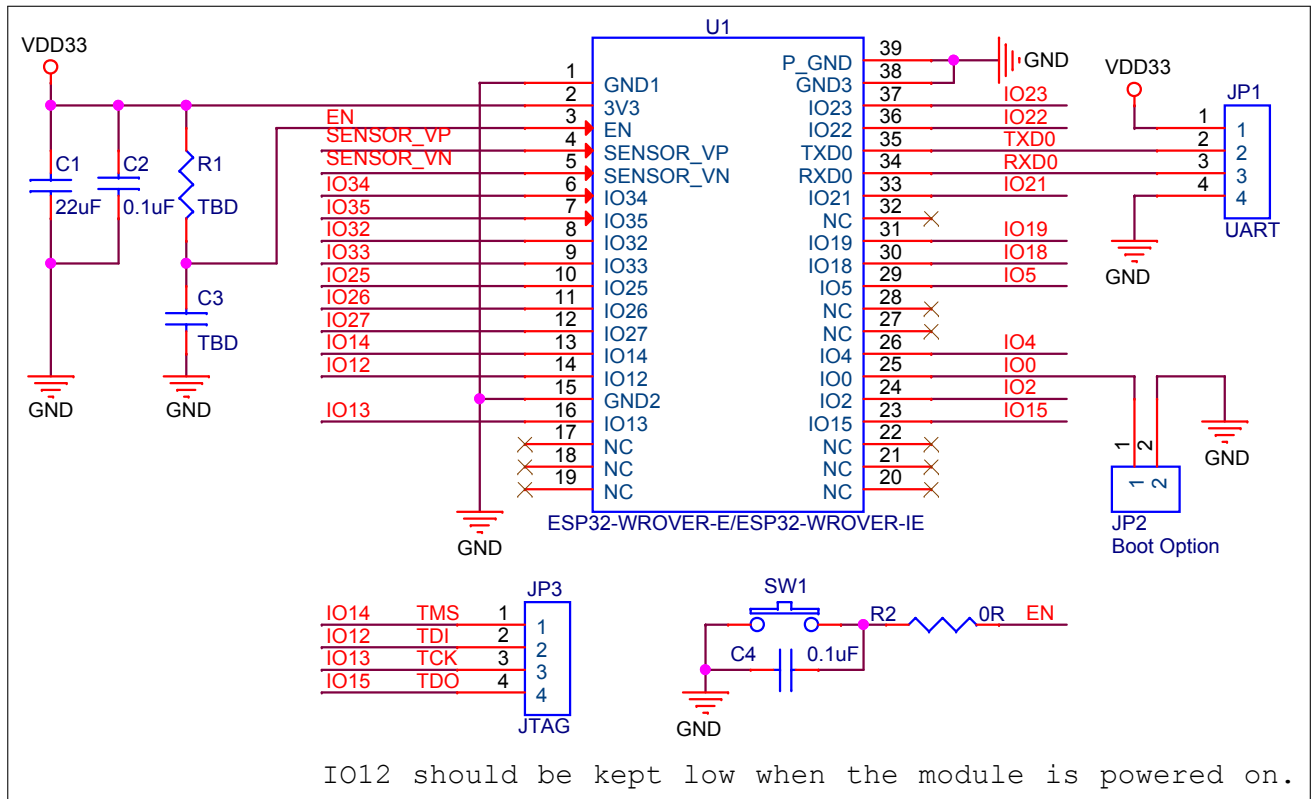
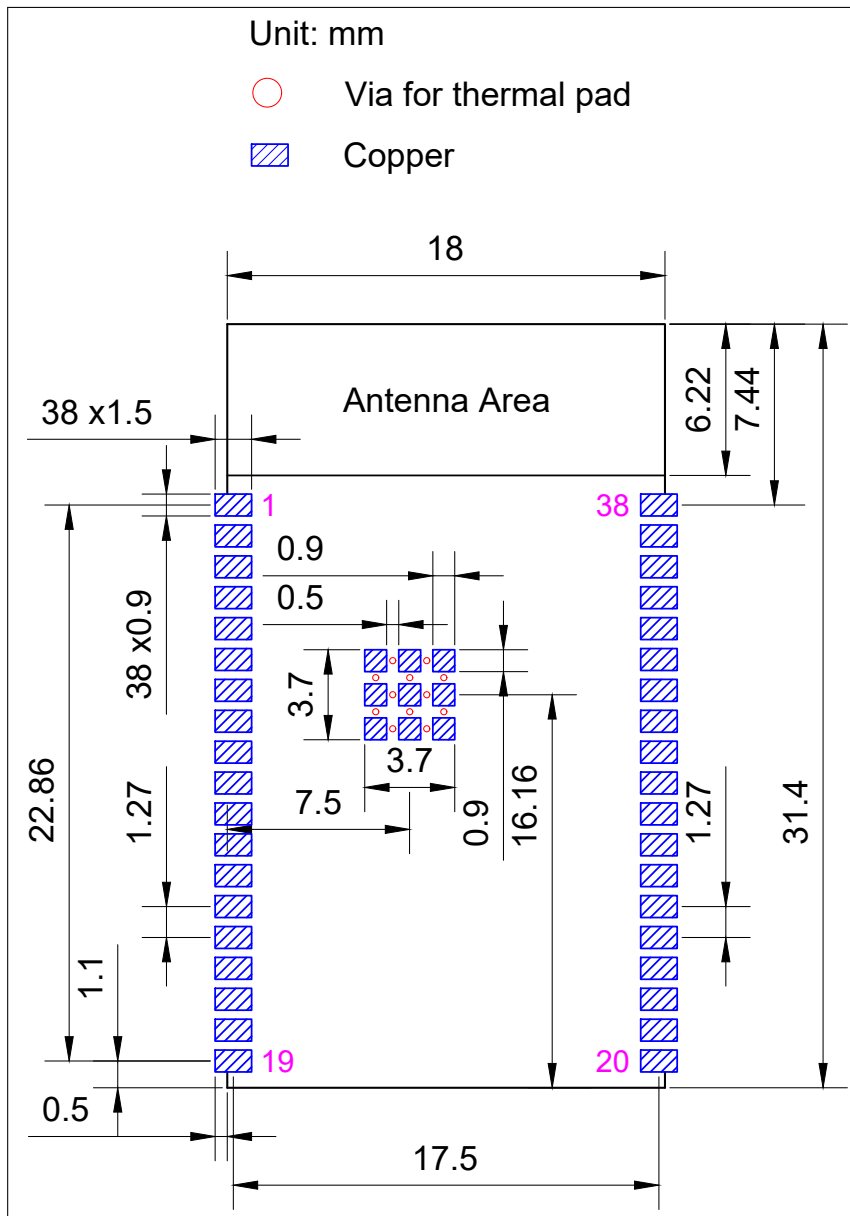

Figure 9: Peripheral Schematics
Figure 12: Recommended PCB Land Pattern
- Source files of recommended PCB land patterns to measure dimensions not covered in Figure 12. You can view the source files for ESP32-WROVER-E and ESP32-WROVER-IE with Autodesk Viewer.
| 2021-02-09 | V1.4 | Updated Figure 9: Physical Dimensions Updated Figure 12: Recommended PCB Land Pattern |